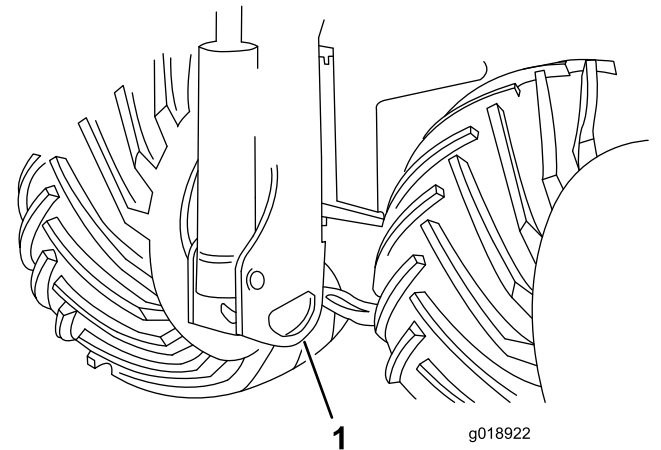

**Figure 21**
9. Fasten the front of the machine to the trailer using chains and a binder. Use the front tie down hole (Figure 21) to secure the machine.